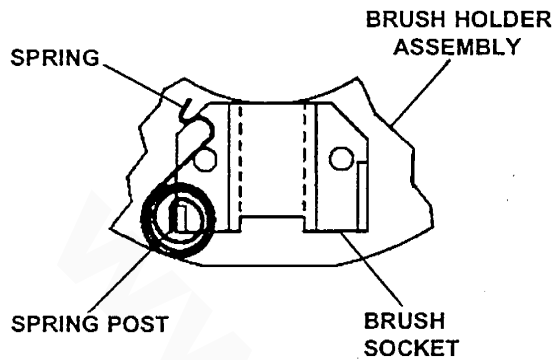

FIGURE 13. BRUSH SPRING ON POST
1. Brush springs (7), if removed.
- a. Start each brush spring onto the post on the brush holder assembly (3) as shown in Figure 13, just enough to hold the inside end of the spring from turning.
- c. Gradually release the spring so that its end contacts the side (not end) of the brush (see Figure 13). This will hold the brushes retracted until after the brush holder is installed over the armature commutator.
3. Grounded brush screws (39).
- a. Position the terminals of the grounded brush leads behind the terminal tabs on the brush holder (3) (see Figure 13).
- b. Insert the brush screws (39) through the terminal tabs on the brush holder and thread them into the brush lead terminals.